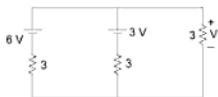

Fig. A2-3
3. The voltage labelled V in Fig. A2-3 is given by